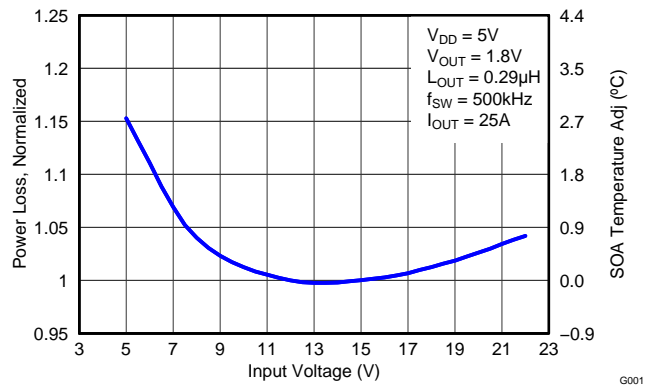

Figure 8. Normalized Power Loss vs Input Voltage
- Normalized Power Loss for input voltage  $\approx$  1.07 (Figure 8)
- SOA adjustment for input voltage  $\approx$  1.2°C (Figure 8)